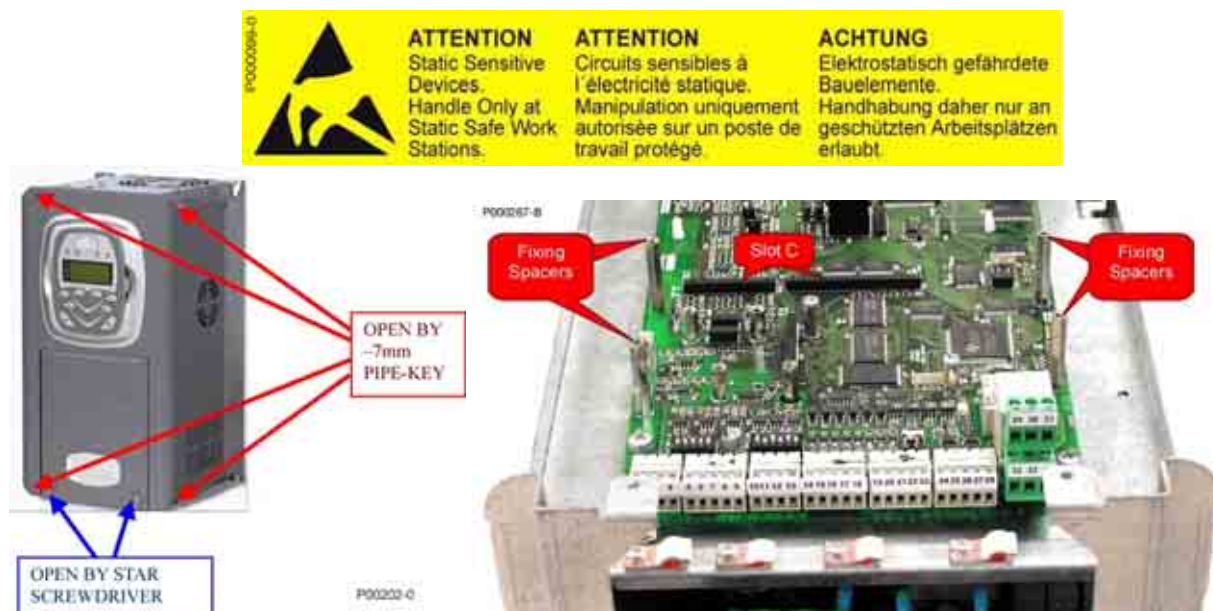

Figure 110: Removing the inverter cover; location of slot C
- 2) Remove the inverter cover by loosening the four hexagonal screws located on the top side and bottom side of the inverter to reach the fixing spacers and the signal connector (Figure 110– Slot C.)